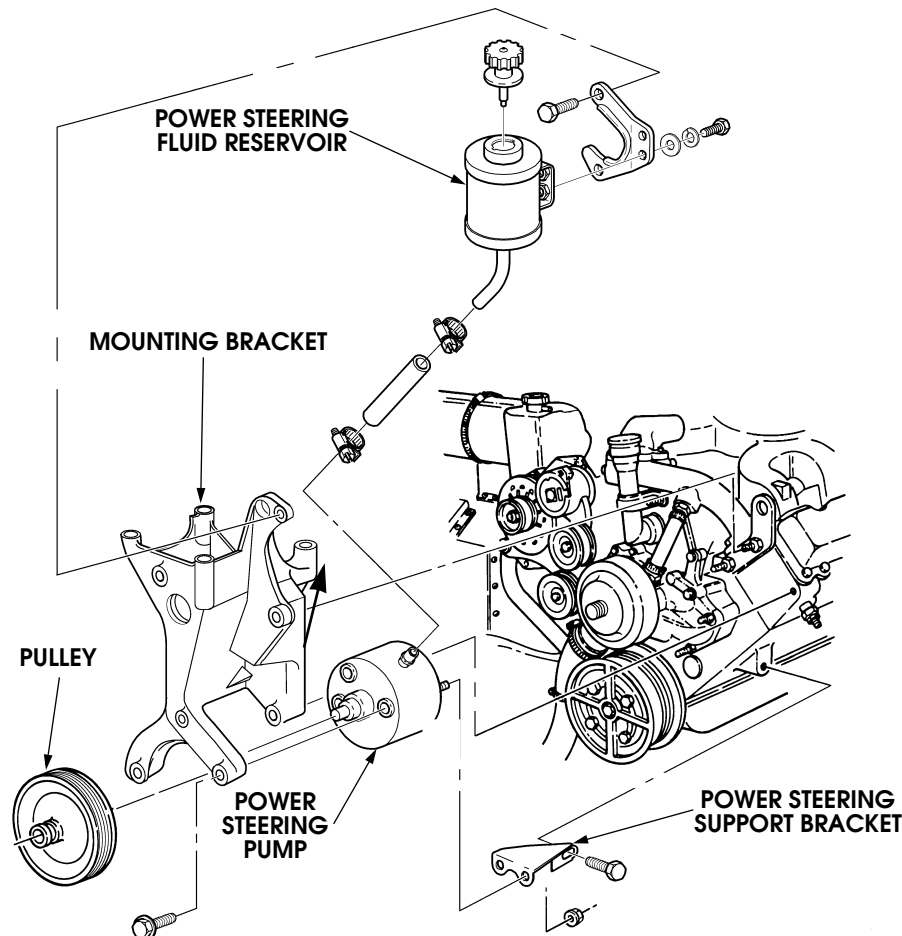

Figure 8-24: Power Steering Pump Mounting
1. Disconnect return lines and high pressure line from back of pump (Figure 8-24).
4. Remove three bolts going through bracket into front of pump (Figure 8-24).
1. Apply non-hardening thread sealant to studs on back of pump and secure support bracket with two nuts. Tighten nuts to 45 lb-ft (61 N•m) (Figure 8-24)
5. Connect two return lines to power steering pump (Figure 8-24).